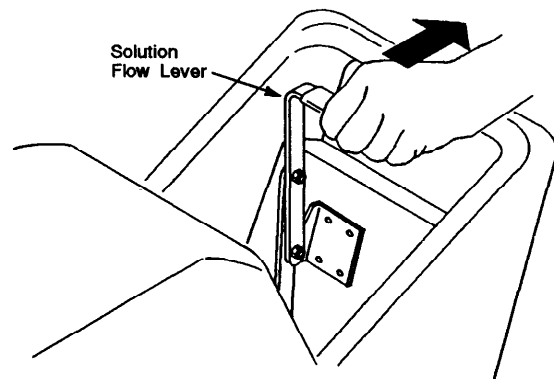

FIG. 9.
- To start solution flow, pull Solution flow lever completely backwards. You can regulate the amount of flow by pushing lever forward. (Figure 9)